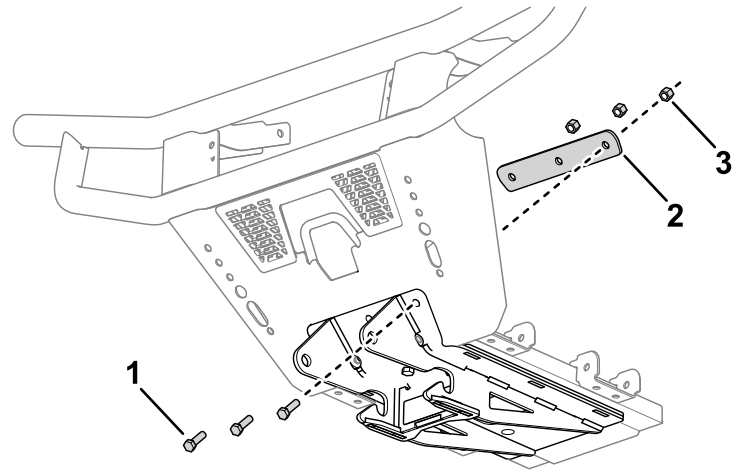

**Figure 2**
5. Mark the following hole locations on the vehicle frame (Figure 2):